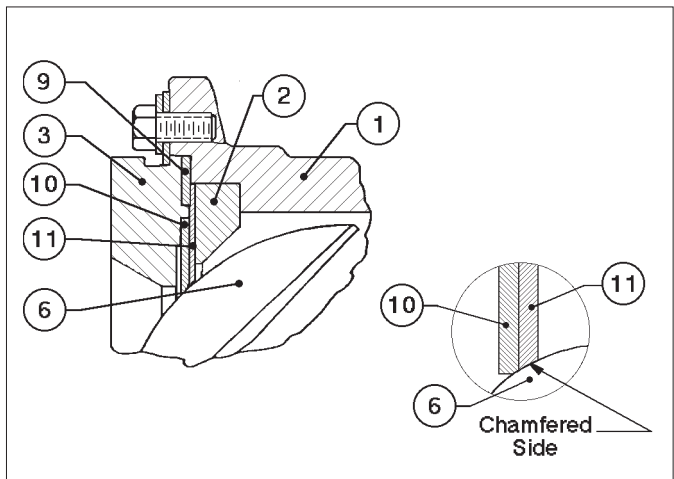

FIGURE 8:
- With plug (6) in the closed position, install the metal seal (11) with chamfered edge of I.D. toward the plug (6); a note is "etched" on the side of the metal seal (11) stating "TOWARD PLUG". Place seal retainer gasket (9) against body (1) face and metal seal (11). Place soft seal (10) against plug (6) face. See Figure 8 for assembly details.